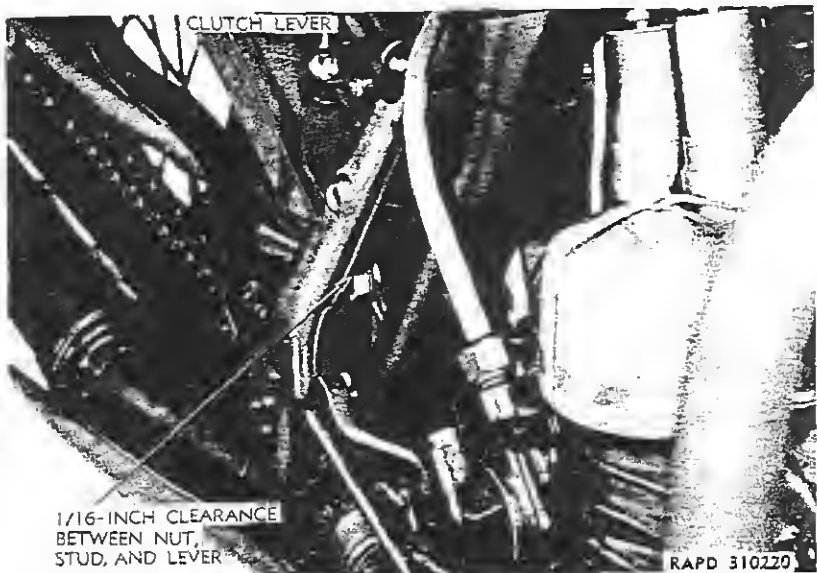

Figure 23—Clutch Lever and Stud Nut Clearance
c. Clutch Control Adjustment (figs. 23, 24, 25, and 26).
(1) ADJUSTING CABLE LENGTH. With clutch in fully disengaged position (foot pedal heel down) the clutch release lever must clear the countershaft sprocket cover stud and/or nut by $\frac{1}{16}$ inch. Should clutch release lever strike sprocket cover and nut, clutch push rod movement is restricted, and clutch cannot be fully disengaged. Length of control cable must be adjusted to obtain $\frac{1}{16}$ -inch clutch release lever and sprocket cover stud and/or nut clearance. To lengthen or shorten clutch control cable, cable adjustable end must be removed from foot pedal stud (figs. 23 and 24). With foot pedal in forward (toe down) position, remove cotter pin and washer retaining cable end. Release other end of cable from notch in clutch release lever by pressing release lever inward and lifting cable end out of notch. Rock the foot pedal to rear (heel down) position and work cable adjustable end off foot pedal stud. Loosen lock nut and turn cable end to right (clockwise) to shorten cable; turn to left (counter-